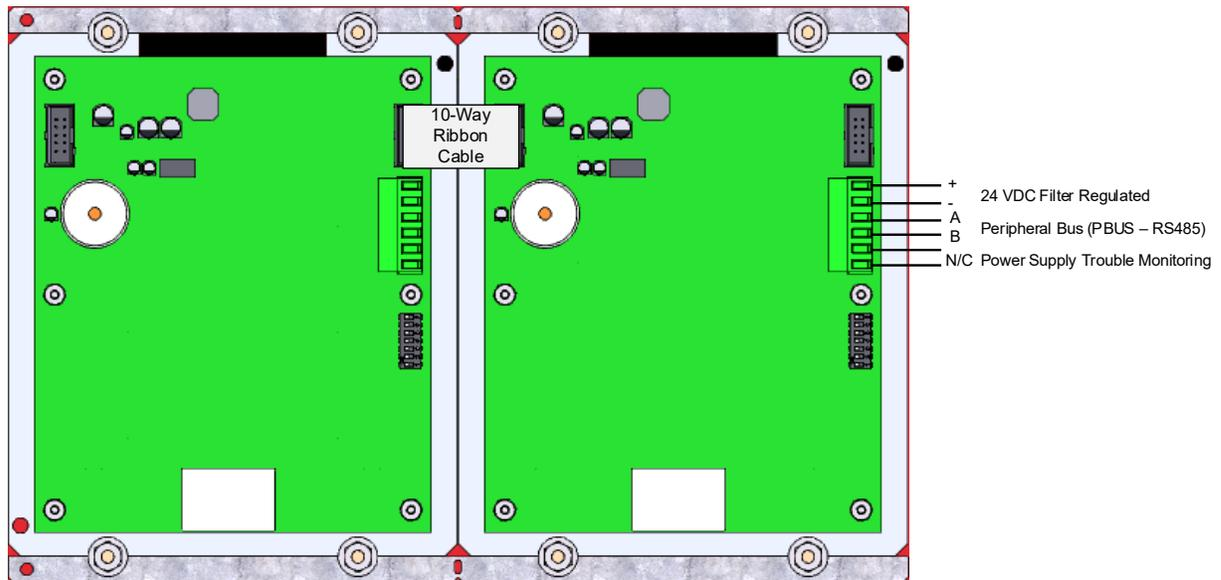

Figure 41 - Switch LED Module Daisy Chain Wiring
4. Install the supplied adhesive backed cable clips (Figure 41)